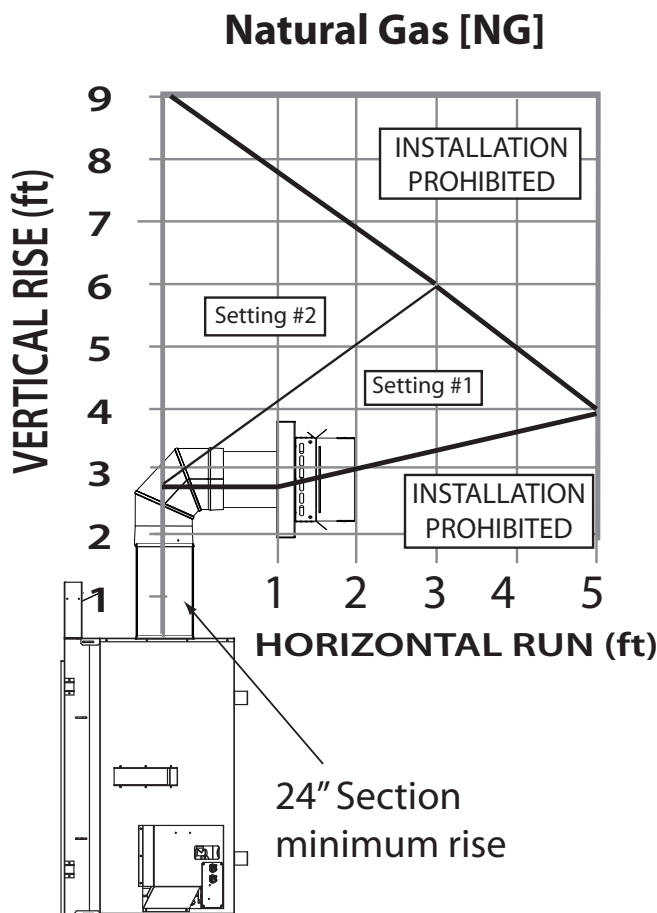
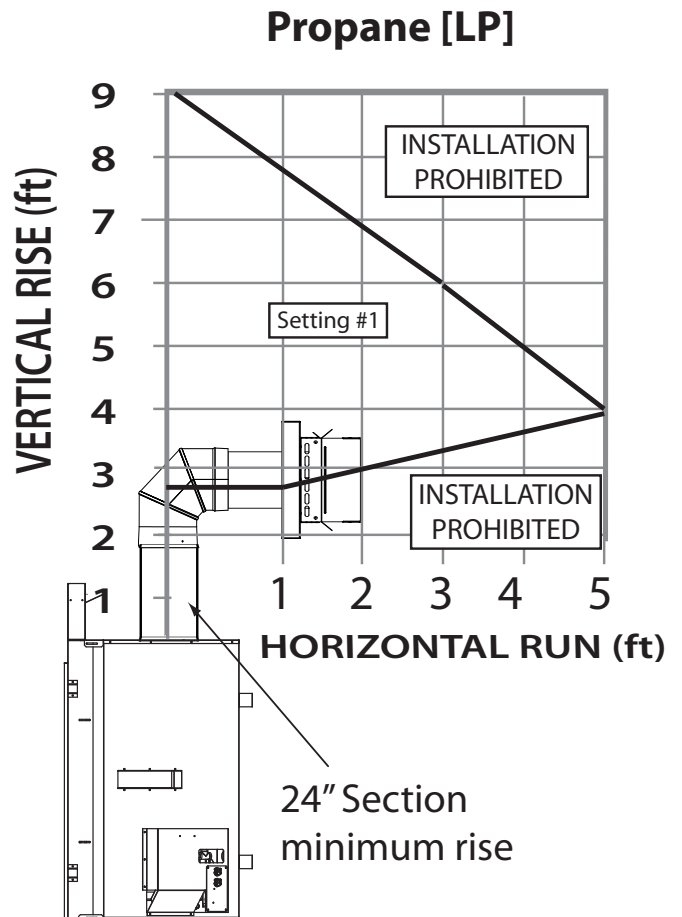

Figure 63: 8" x 11" NG Vent Graph
Figure 64: 8" x 11" LP Vent Graph
***Note:** Be sure to use the proper diagram depending on if your unit uses Natural Gas (Figure 63) or Propane (Figure 64).